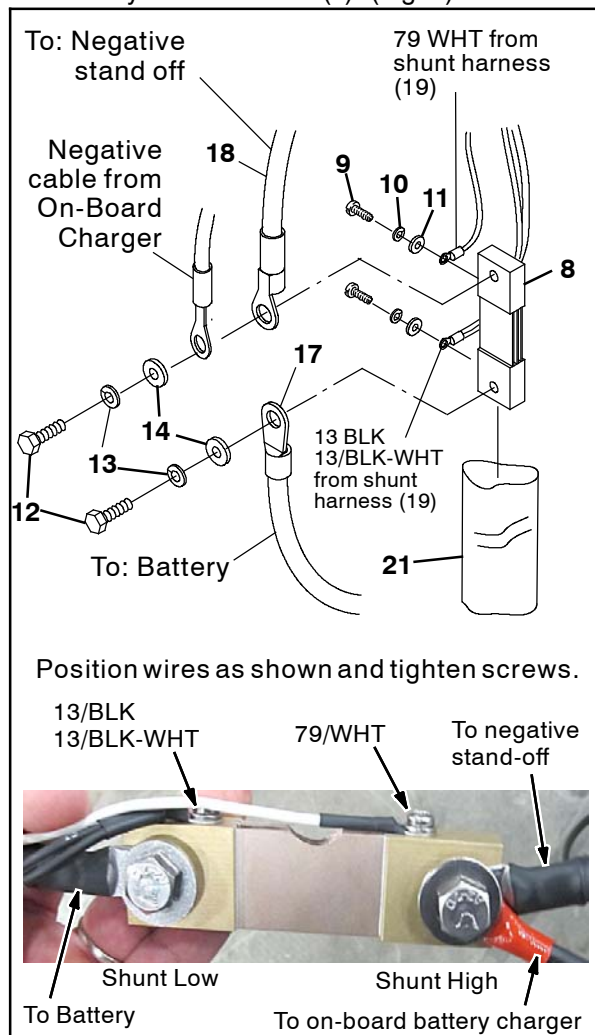

Fig. 8
5. Use one M8 hex screw (12), one flat washer (13), and one lock washer (14) to connect the 40 in. cable (18) to the shunt (8). (Fig. 8)
If machine is equipped with on-board battery charger, connect the charger's negative battery cable to shunt (8). (Fig. 8)
6. Use one M8 hex screw (12), one flat washer (13), and one lock washer (14) to connect the 36 in. cable (17) to the shunt (8). (Fig. 8)
7. Use one M4 pan screw (9), one lock washer (10), and one flat washer (11) to connect the telemetry shunt harness (16) 79/WHT wire to the end of the shunt (8) with the cable assembly (18) black cable. (Fig. 8)
8. Use one M4 pan screw (9), one lock washer (10), and one flat washer (11) to connect the telemetry harness (16) black wire to the telemetry shunt harness (19) 13 / BLK 13 / BLK- WHT wires to the end of the shunt (8) with the cable assembly(17). (Fig. 8)
9. Slide the heat shrink (21) over the various wires and shunt, center the heat shrink onto the shunt, and heat the heat shrink over the shunt and the wire / cable connections to the shunt. (Fig. 8)